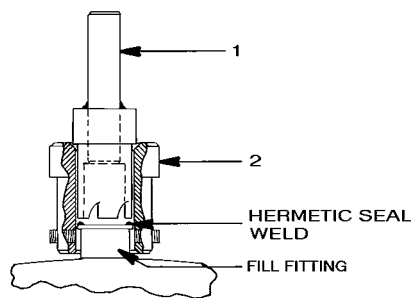

Figure 304. Fill Plug Weld-Machining Tool
- B. Put the feed bushing (Figure 304, 2) on the fill fitting and tighten the set screws.